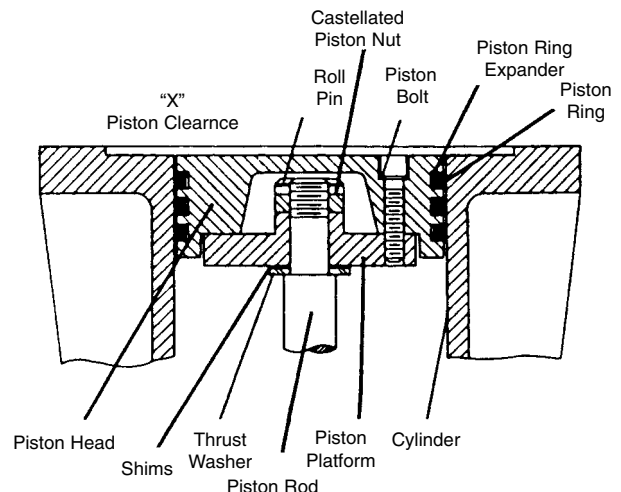

Figure 5.4A
5.3A). Next, remove the roll pin with needle nose pliers. The castellated nut may now be removed and the piston platform lifted off the end of the piston rod. Check the thrust washer and shims for damage and replace if necessary. (FD151 Stage 1 only). See Figure 5.4A Below.